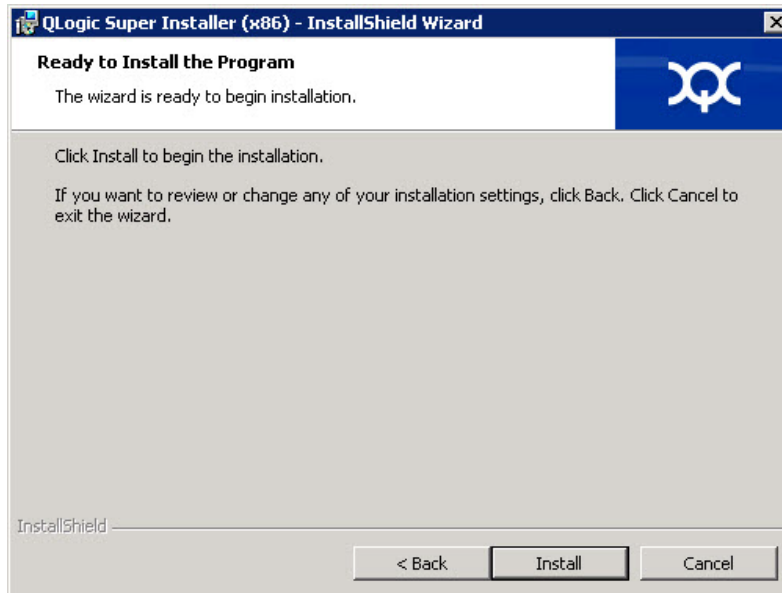

Figure 3-6. InstallShield Wizard: Ready to Install the Program Window
7. In the InstallShield Wizard's Ready To Install window (Figure 3-6), click **Install**. The InstallShield Wizard installs the QLogic Adapter drivers and Management Software Installer.